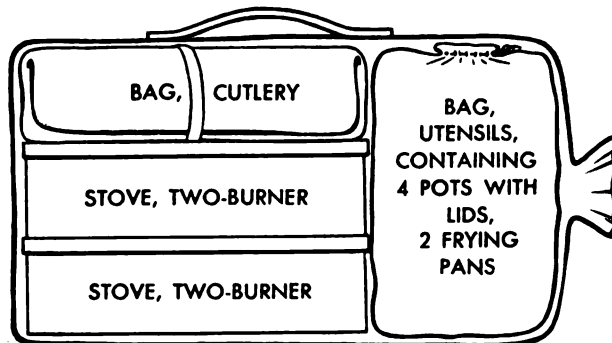

Figure 15. Outfit, cooking, 20-man, packed in canvas carrying bag.
c. **HOW TO PACK.** (see fig. 15). (1) Lock each stove into its case.
(2) Place one stove and case inside the large canvas carrying bag, lengthwise, at the rear. (Have the handle of the bag at the top.) Place the second stove and case on top of the first.
(3) Place the fork, knives, can openers, spoon and sharpening stone into the cutlery roll, and put roll into cutlery bag. Also put into cutlery bag the brush, dipper, ladle, salt and pepper shakers and cake turner. Lay the cutlery bag on top of the stoves.
(4) Nest the four cooking pots and lids. Then nest all pots and lids in the frying pans, one pan at the top and one at the bottom.
(5) Tie all nested utensils into the utensil bag and place this bag inside the carrying bag, at the front.
(6) Tie the carrying bag securely.